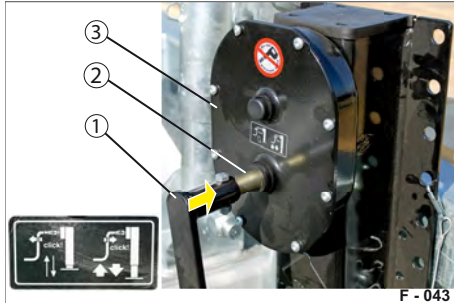

Fig. 24 Switching on low gear
- ▶ Leave the crankshaft (Fig. 24/2) in low gear (pressed in).
- ▶ Press the crankshaft (Fig. 24/2) into low gear.